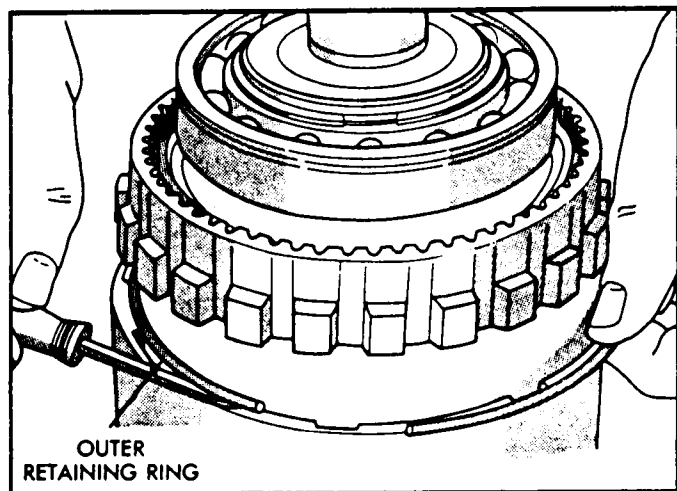

Figure 21
28. Turn the assembly over and remove the direct clutch outer retaining ring, as shown in Figure 21.